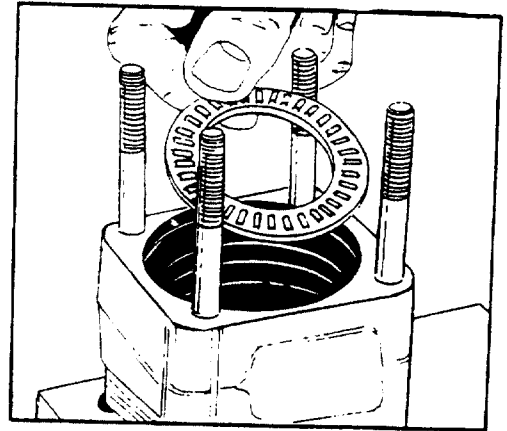

FIGURE 71.
24. Lightly grease roller thrust bearing (28), and place it on the upper cover plate (32), inside the bearing spacer (27). See figure 71.